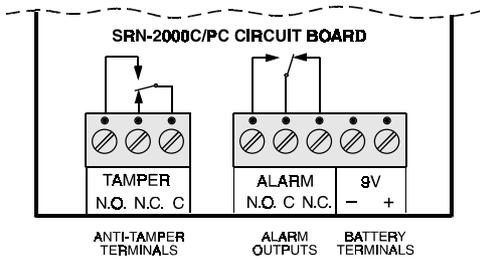

Figure 7. SRN-2000C/PC Wiring
- A. Model **SRN-2000C/PC** (see Figure 7)